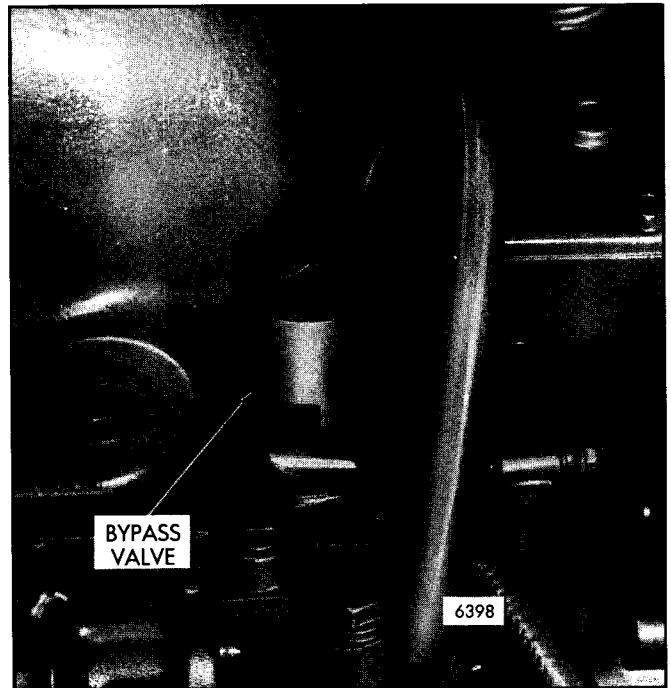

Fig. 23 - Typical Bypass Blower Valve Installation (6V Engines)
- d. Secure the bypass valve to the blower with clamps and bolts (Fig. 23).